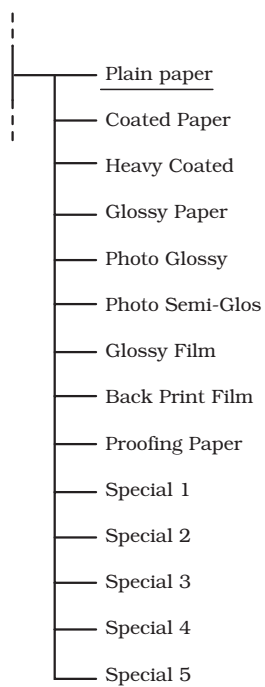

Figure 3-41 Map of the Media Type
- *1: Displayed the media type (Refer to Figure 3-41 Map of the Media Type)